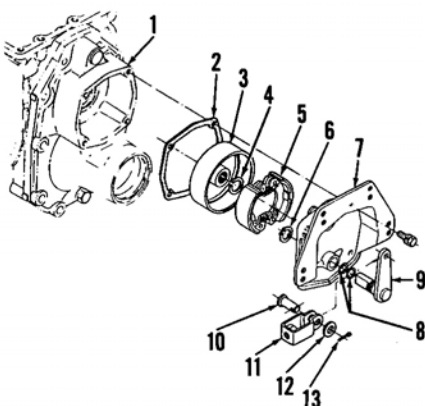
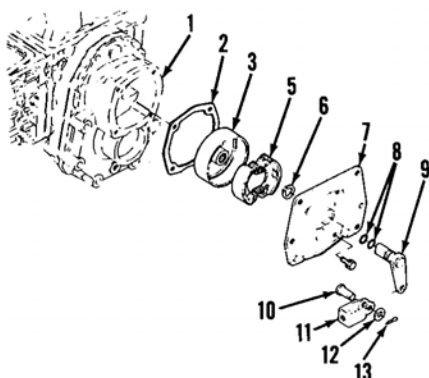

Fig. 87—Exploded view of brake assembly used on Models B6100D, B6100E, B6100HST-D, B6100HST-E, B7100D, B7100HST-D and B7100HST-E.
Fig. 87A—Exploded view of brake assembly used on Models B5100D and B5100E. Refer to legend in Fig. 87 for identification of parts.
Raise rear wheel of the side to be serviced off the ground, then detach and remove rear wheel. Remove fender assembly. Disconnect and remove brake rod. Remove the four cap screws securing brake cover (7—Fig. 87 or Fig. 87A) to axle case, then separate cover assembly from axle case. On all models except B5100D and B5100E, remove snap ring (4) before separating brake drum (3) from bull pinion shaft.
82. OVERHAUL. Inspect linings of brake shoes (5—Fig. 87) for stains from excessive amounts of oil, cracks, excessive wear or any other damage. Measure brake lining thickness,